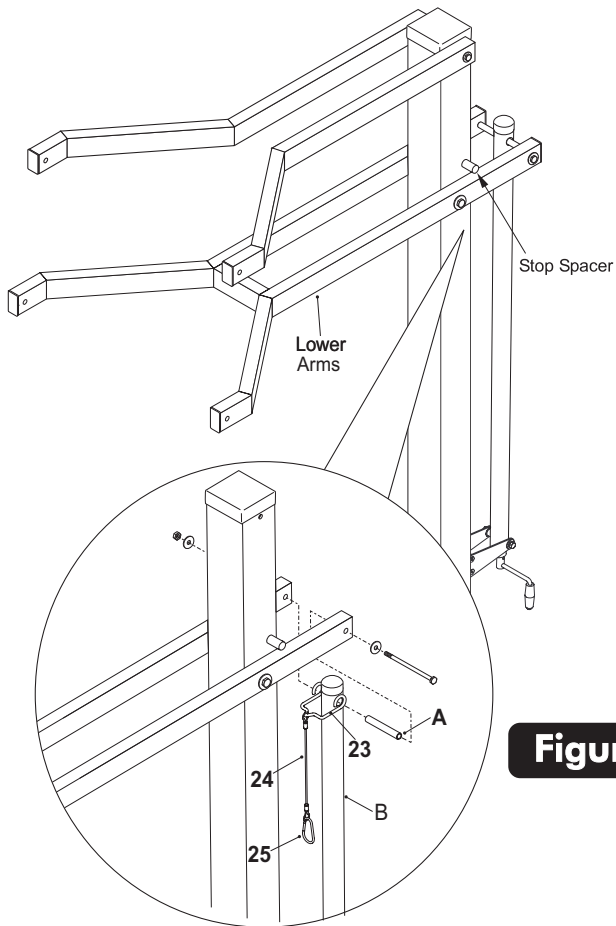

Figure 1
1. Crank Actuator until unit is in its lowest position so that the lower arms are against stops. See Figure 1.
2. Remove bolt and nut that attaches Actuator (B) to lower arms and place cable stirrup (#23) over the top of the Actuator. Slide Pivot tube (A) through Stirrup and Actuator until equal amounts stick out through both sides of Actuator. Re-attach with bolt and nut as shown in Figure 1.